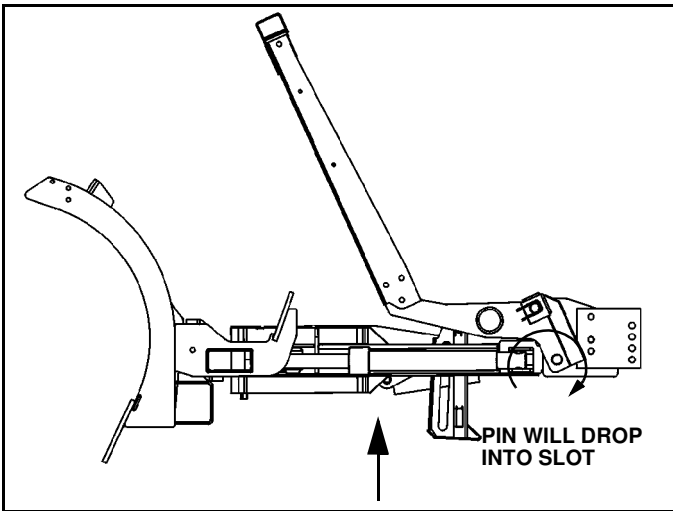

Figure 1-15
3. Rotate light/lift bar into position by turning on down pressure and pressing the lower button. (See Figure 1-15).